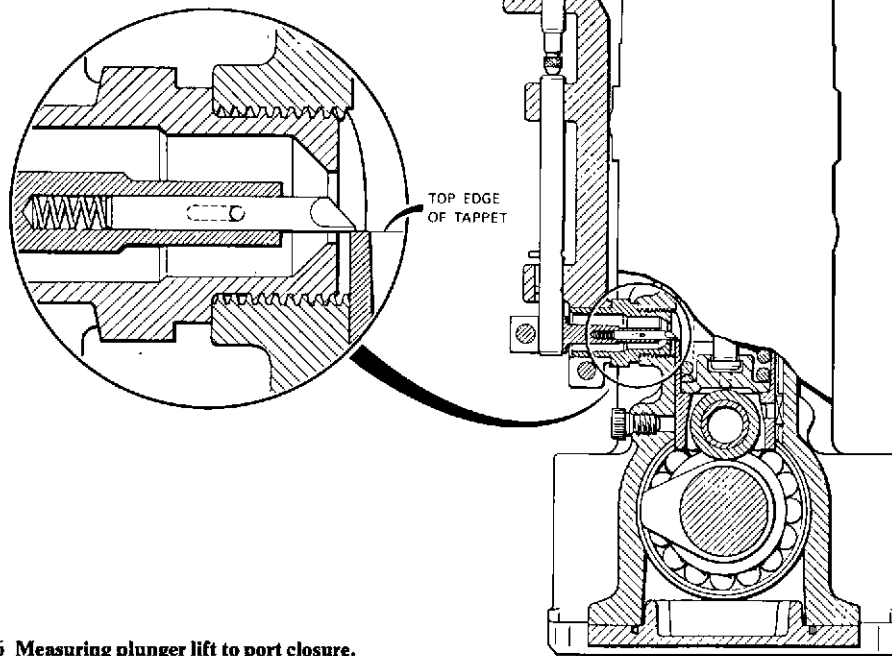

Fig. 56 Measuring plunger lift to port closure.
- (iii) Referring to fig. 56, fit measuring rig 1 688 130 085 to the access plug tapping, ensuring that the probe rests on the upper edge of No. 1 tappet, as in the inset. Assemble dial gauge 1 687 233 011 to the rig and set it to zero.